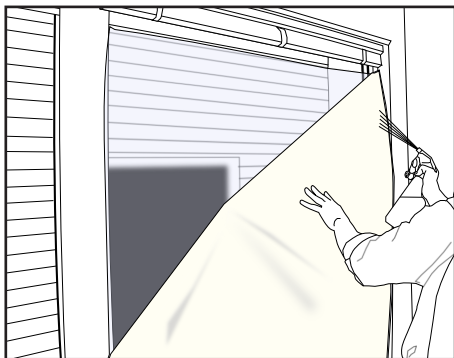

Figure 20
- › Remove the protective liner completely while moistening the adhesive side with the HEXISGEL solution. (FIG. 20)